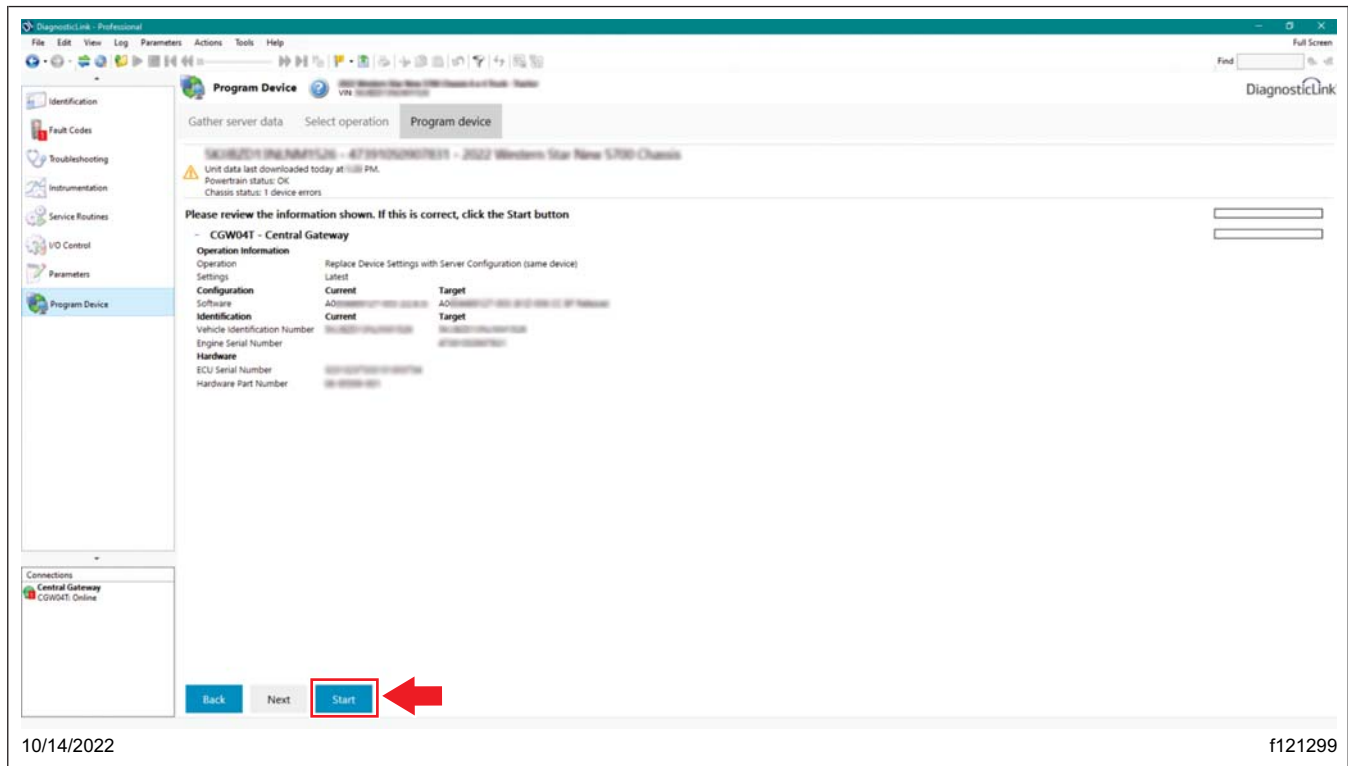

Fig. 16, Starting to Flash CGW04T
21.4 Select 'Start' to start flashing the CGW04T. See Fig. 16.